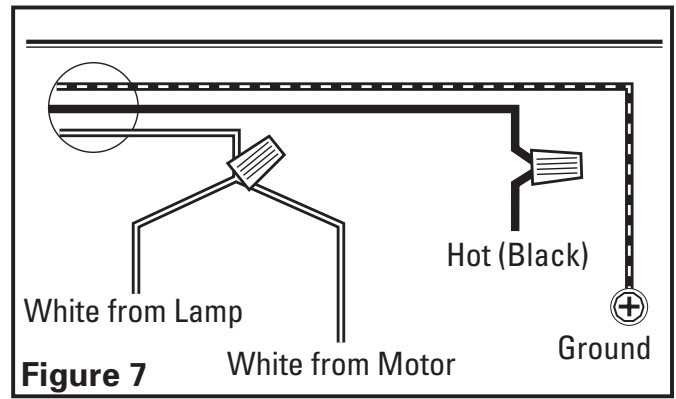

Figure 7
1. Connect the 2 loose White wires from the range hood to the White wire from the supply, and the loose Black wire from the range hood to the Black wire of the supply. Connect the ground wire (green or bare) from the supply to the green ground screw of the hood. Use approved methods for all connections (Figure 7).